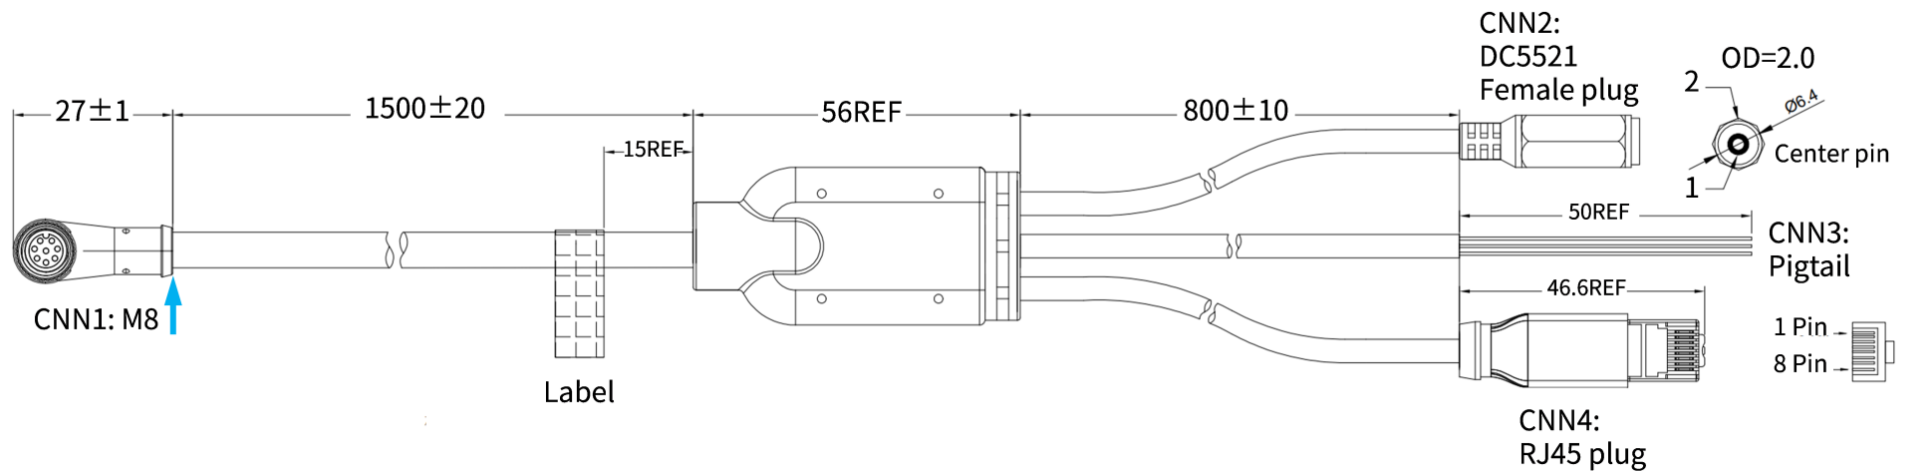

Figure 13. Triple splitter cable (unit: mm)
- If a right-angle connector is used, the joint between the cable and the connector's overmolded part (see arrow in Figure 13. Triple splitter cable \(unit: mm\)) can only withstand a lateral force of less than 40 N.